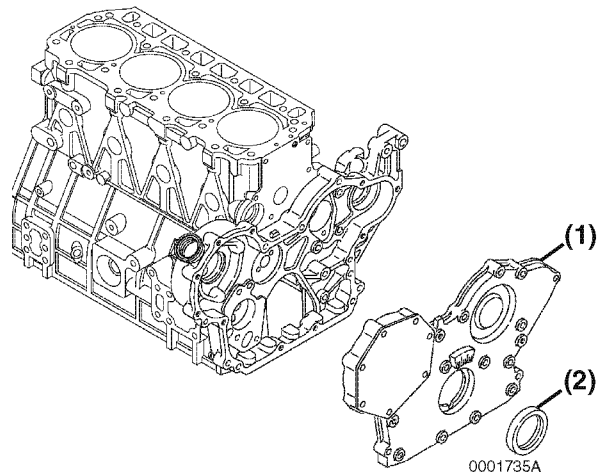

Figure 6-111
1. Remove the seal (Figure 6-111, (2)) from the cover (Figure 6-111, (1)).
2. Apply a continuous bead of ThreeBond Liquid Gasket No. 1212, Yanmar Part No. 977770-01212 to the outside diameter of a new oil seal (Figure 6-111, (2)), and install in the gear case cover. Apply lithium grease to the lip of the seal.